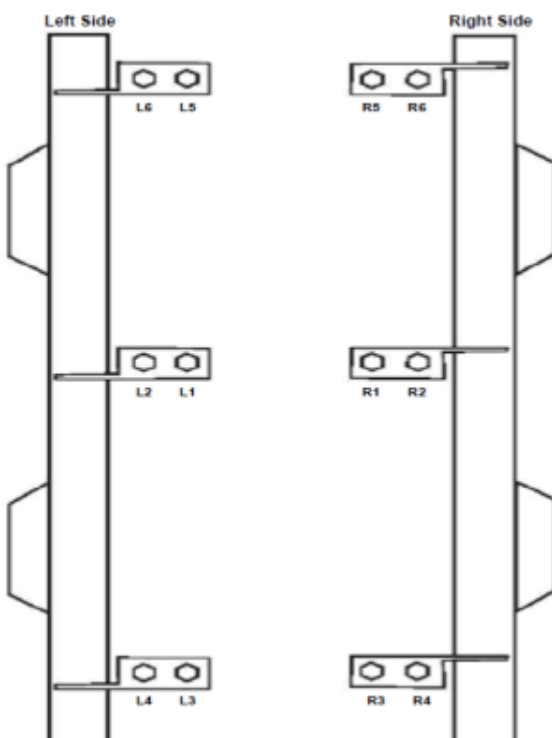

FIG. 2
- 5) Torque fasteners in order as shown in **FIG 2**.